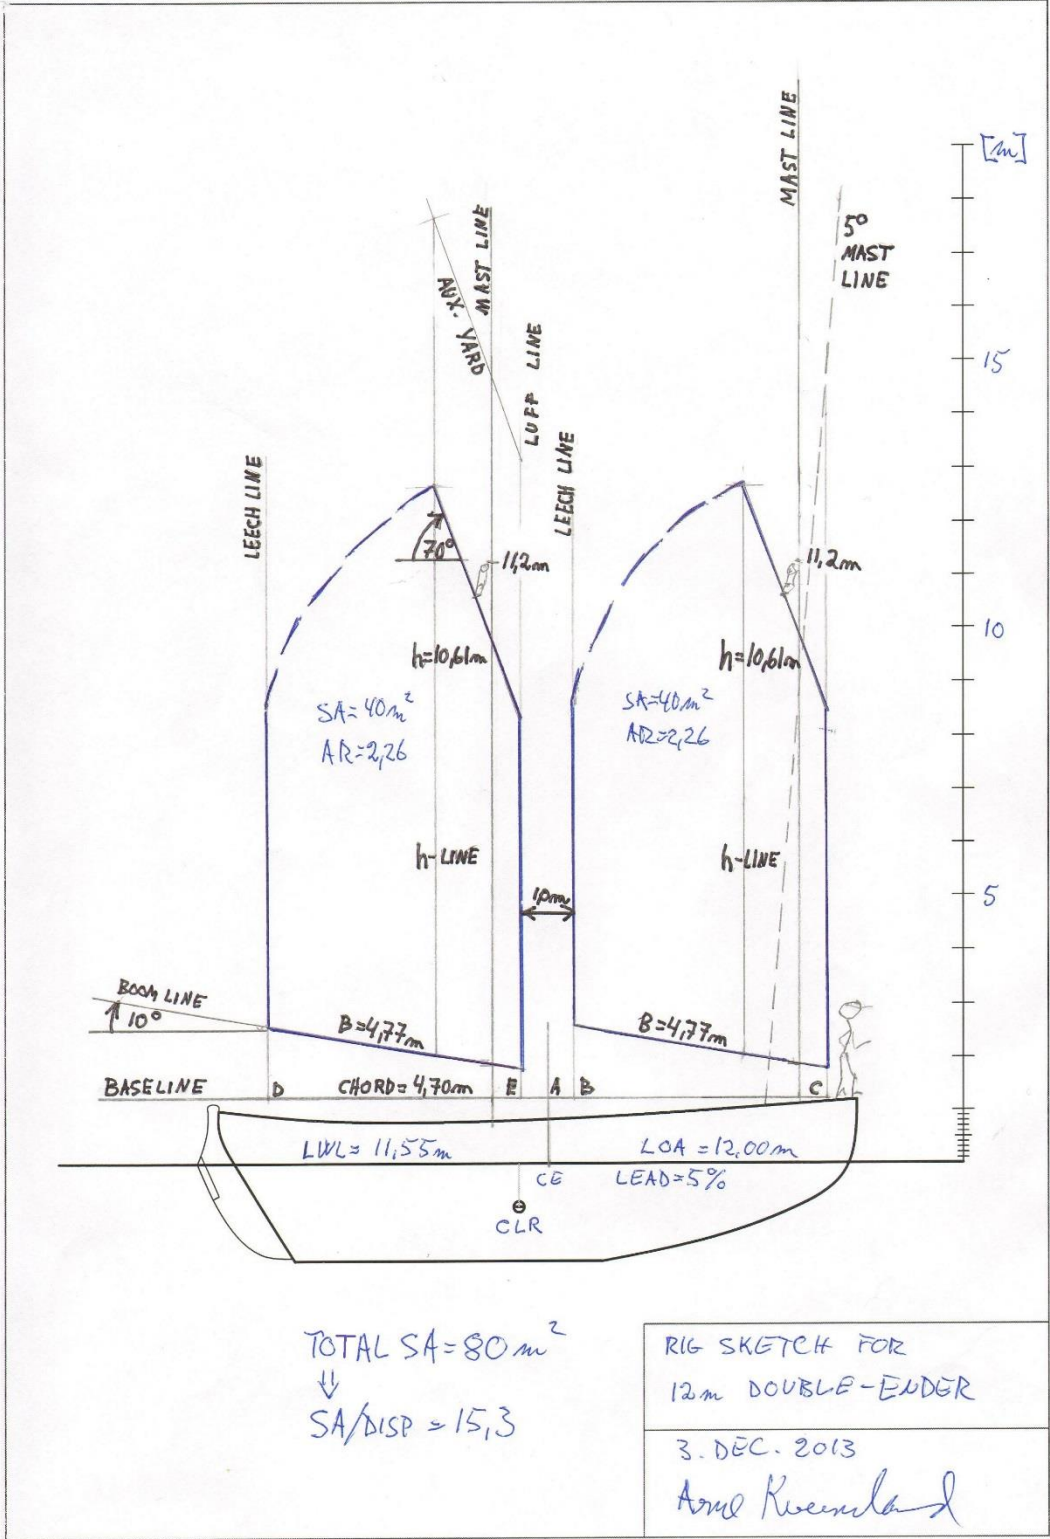

Fig 3.3, Schooner with both sails at SA=40m2 and AR= 2.26
In my second attempt (Fig 3.3, below) I increased the boom length, B, from 4.20m to 4.77m. When going through the drawing sequence, I suggest you keep Fig 3.3 at hand, as this has more details on it than Fig 3.2 (..and because I like this rig better...).
This change in boom length had a dramatic effect on the aspect ratio. The rig on Fig 3.3 looks more offshore capable to me, with shorter masts and easier sheeting of the foresail. The masts will not need to be more than 11.2m above the wl. while the tall rig on Fig 3.2 will need 12.5m.
- I have started with drawing up a foresail, identical to that in Fig 3.3, but this time I have moved it as far forward as I could.